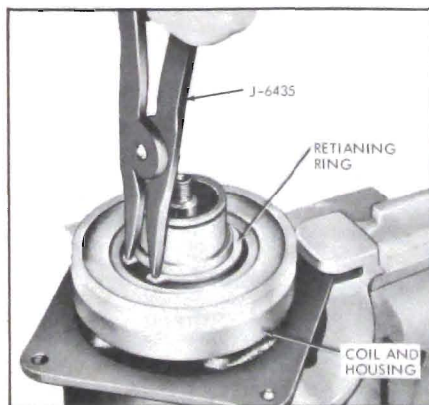

Figure 11-106—Removing Coil and Housing Retaining Ring
4. Use J-6435, No. 26 Truarc pliers and remove coil housing retaining ring, then remove coil assembly. See Figure 11-106.